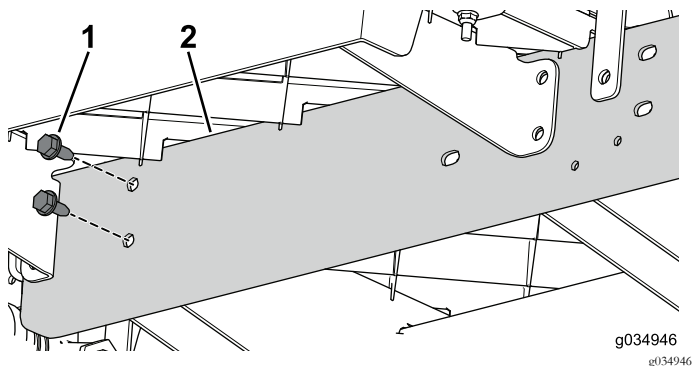

Figure 75
6. Use the 2 bolts (5/16 x 3/4 inch) to loosely install the extension rail to the center channel to the front section of the machine (Figure 75).